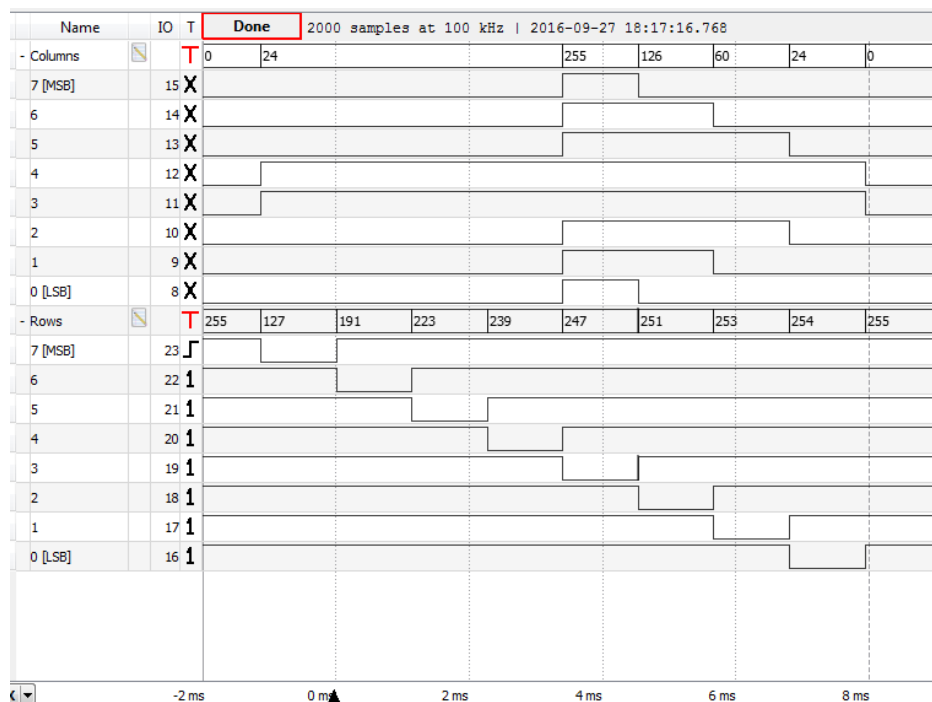

Figure 4: Logic Analyzer Showing Arrow Displayed
1. Refer to the ARM STM32L100RC datasheet to verify the amount of current each GPIO pin can supply and sink. Since the GPIO pins can sink more current than they can supply, it is recommended that you set one Row to logical LOW and all of the columns that need to be turned on in that row to logical HIGH, as this allows the current from each GPIO pin at logical HIGH to light up only one LED and maximize brightness. For reference on how this can be implemented, see Figure 4.